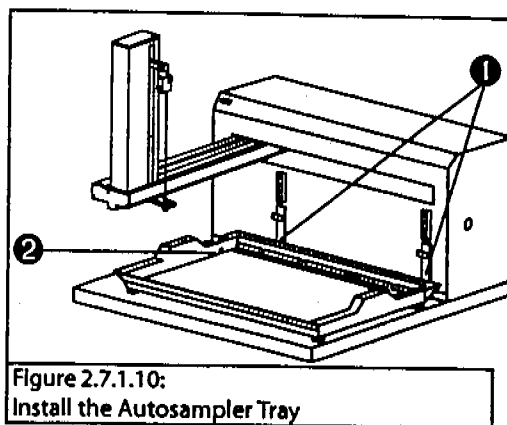

Figure 2.7.1.10:
1. Install the tray in the lower position on the tray mounting brackets (❶, Figure 2.7.1.10).